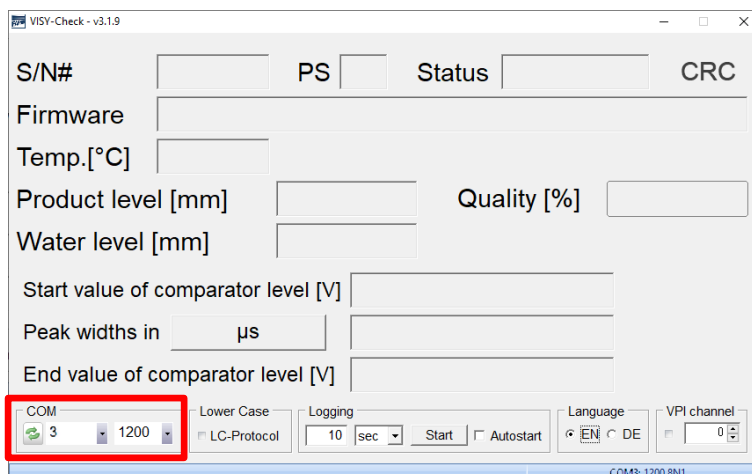

Figure 2: Program Start
- 3) VISY-Check is provided as a ZIP file. Please extract this ZIP file to any directory and start the "VISY-Check...exe" file from there. The program window opens initially without any data entries (see Fig. 2) until the connection to the FAFNIR sensor is established:
The COM port of the FAFNIR USB Adapter must be set in the "COM" field if no automatic assignment occurs (see Fig. 2). To the right of it, the transmission rate can be set with 1200, 4800, or 9600 baud, depending on the support of the FAFNIR sensor.
| Figure 2: Program Start | 1 |